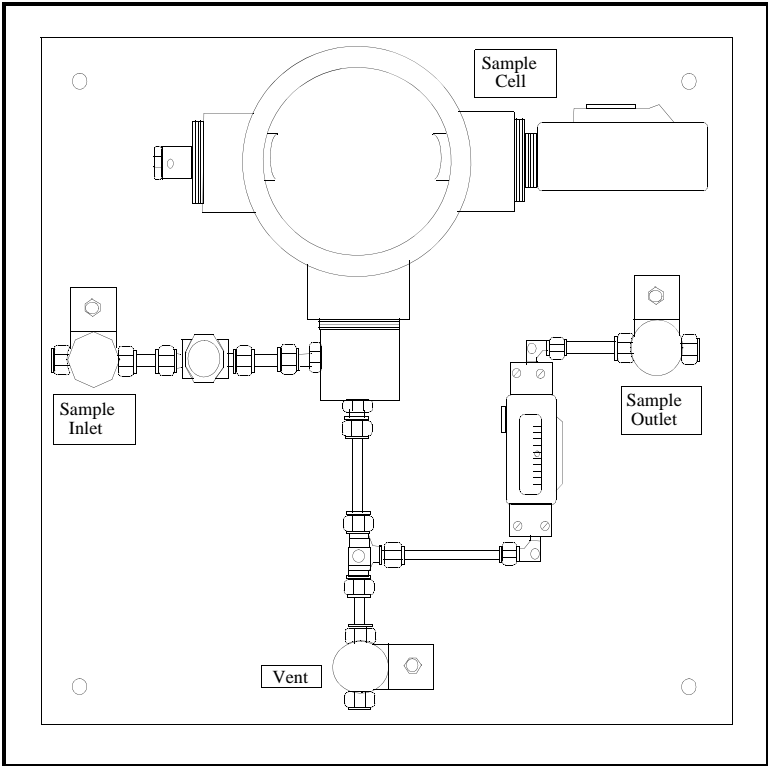

Figure 79: Typical Moisture Sample System
- Typically, sample systems should be kept very simple. They should contain as few components as possible and all or most of those components should be located downstream of the measurement probe. Figure 79 on the next page shows an example of a simple sample system consisting of an explosion-proof housing with a sample cell, a filter, a flow meter, a vent valve and two shut off valves, one at the inlet and one at the outlet.